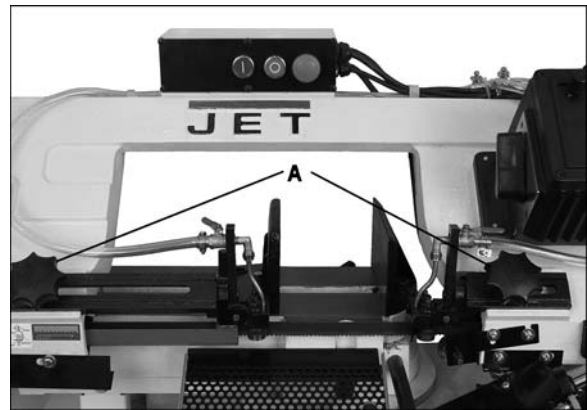

Figure 25
1. Loosen knobs (A, Figure 25).